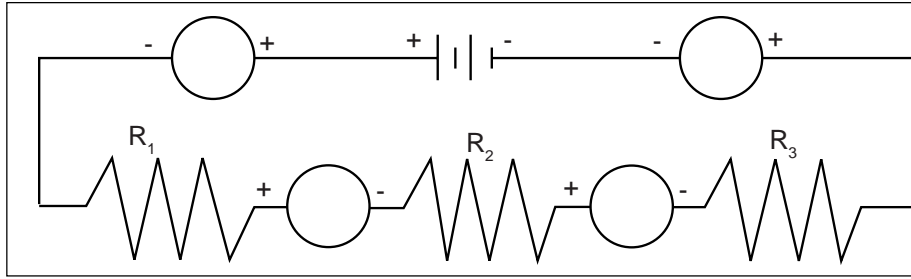

Figure 6.3
- ③ Now move the DMM to the positions indicated in Figure 6.3, each time interrupting the circuit, and carefully measuring the current in each one. Complete the table on the top of the back page.